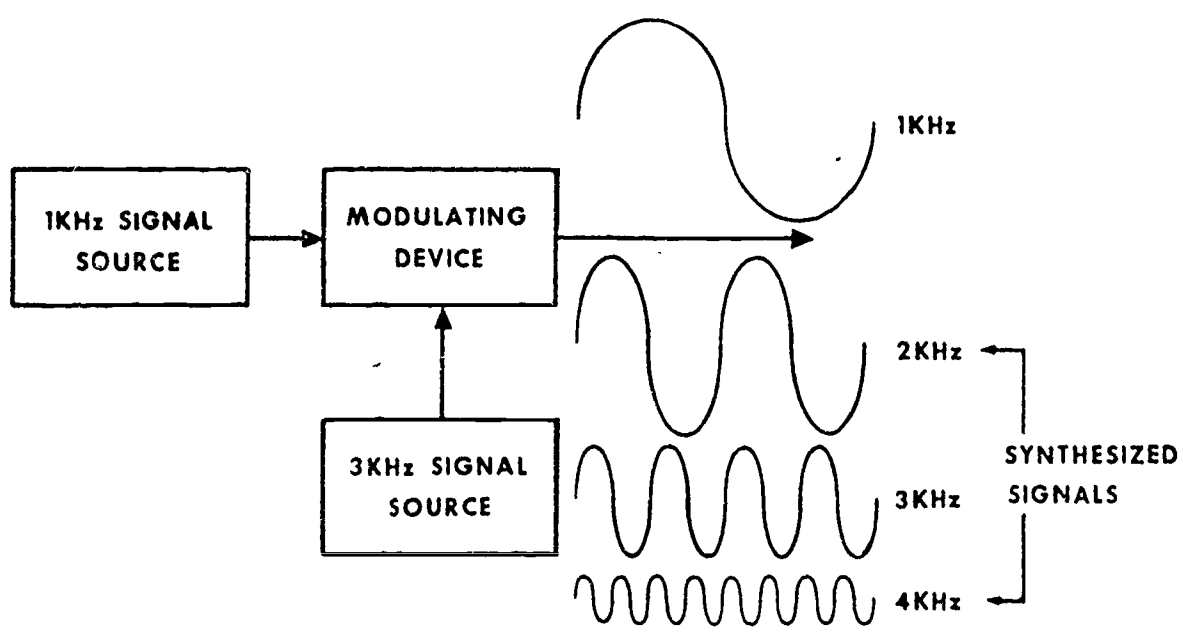

Figure 2-18. Basic frequency synthesis principle.
a. Frequency Synthesis Methods. The basic principle of frequency synthesis is shown in figure 2-18. Each of the several methods or combinations of methods used to synthesize signals follows this principle. Some of the various methods used to synthesize frequencies are circuits designed to add, subtract, multiply, and divide a stable basic frequency.